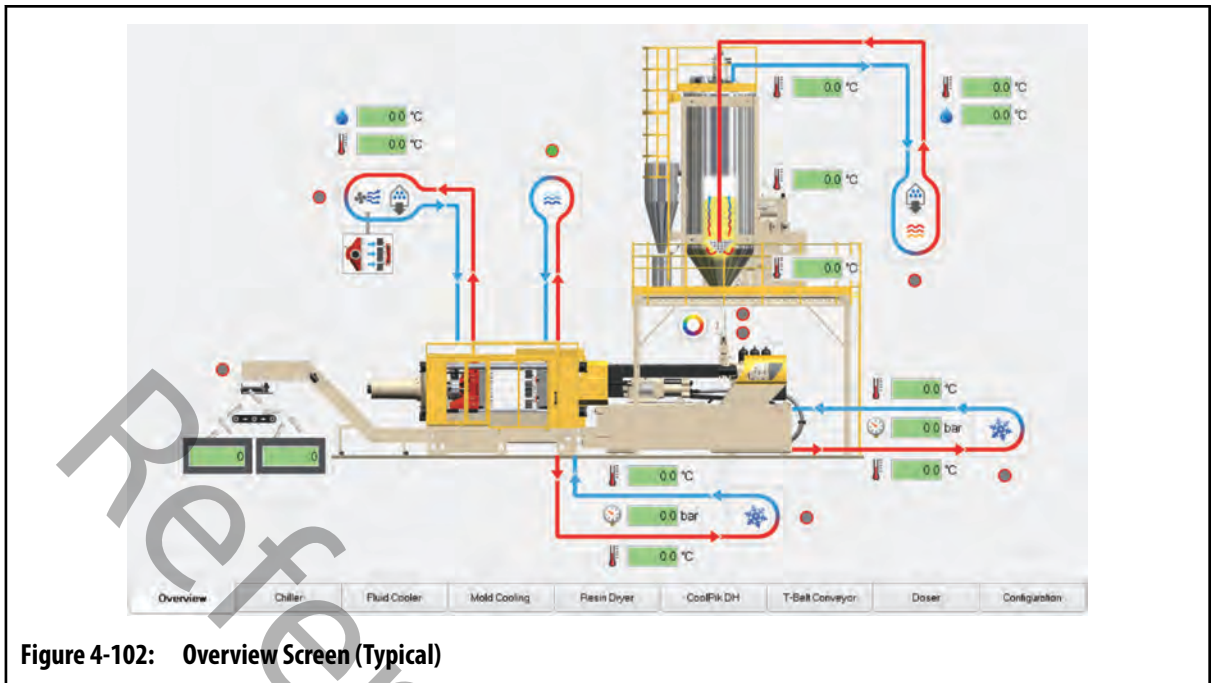

Figure 4-102: Overview Screen (Typical)
1. On the HMI, touch the **Auxiliaries** button, and then touch the **Overview** tab to display the **Overview** screen. Refer to Figure 4-102 for details.